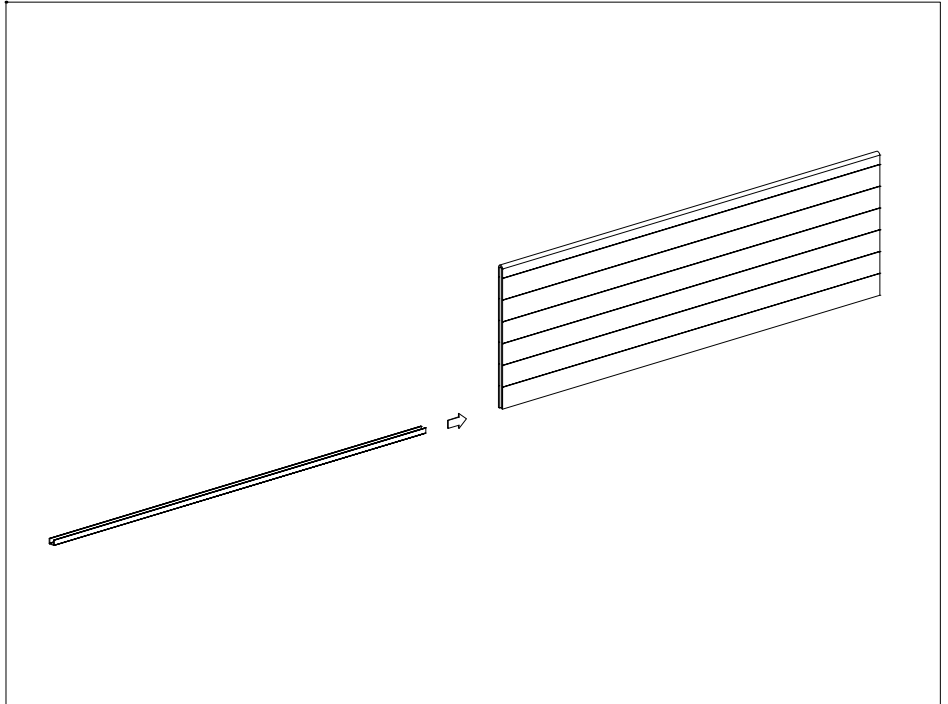

FIGURE 1
1. Slide the bottom extrusion sideways, (Figure 1).